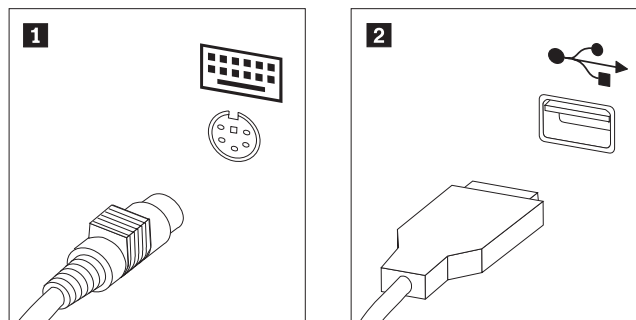

Figure 43. Keyboard connectors, standard and USB
3. Locate the keyboard connector. See Figure 43.